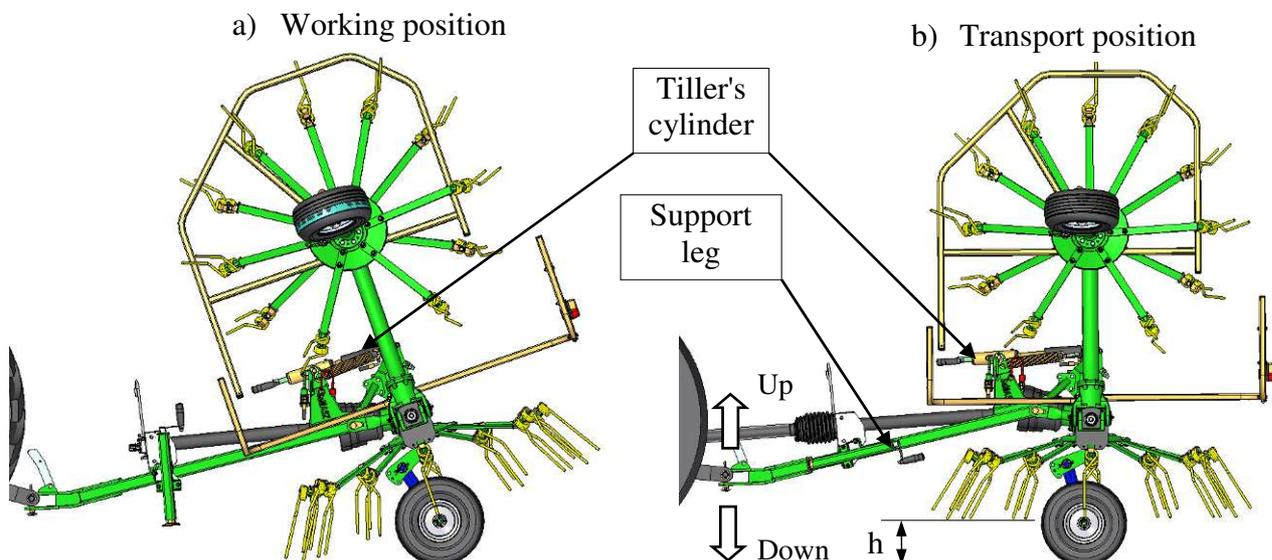
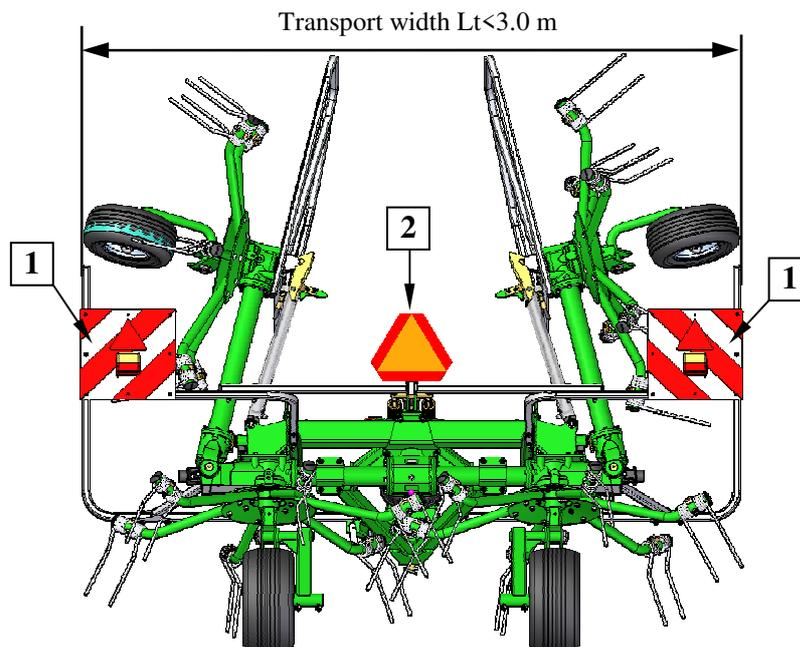

Fig. 13. Switching tedder to transport position (for: P4-471C, P4-531C)
Fig. 15. The tedder transport width change
- for: **P4-471C, P4-531C** - switch the tedder to vertical position, so as to lift the tines up (**Fig. 13**). If need be, lift the 3-point linkage beam (up / down marking on **Fig. 13**) with use of movable arms of 3-point linkage, so as to obtain sufficient distance between the tines and the ground level **h**.
- for: **P6-771C** using cylinders lift outer rotors, engage pawls and lower outer rear wheels (**Fig. 15**).
- fold support leg (**Fig. 13 and Fig. 15**),
To meet safety precautions concerning transport on the public roads the tedder should be equipped with the following devices (**Fig. 15**):
When driving on public roads the machine's width should not exceed 10' (3 m) (**Fig. 15**).